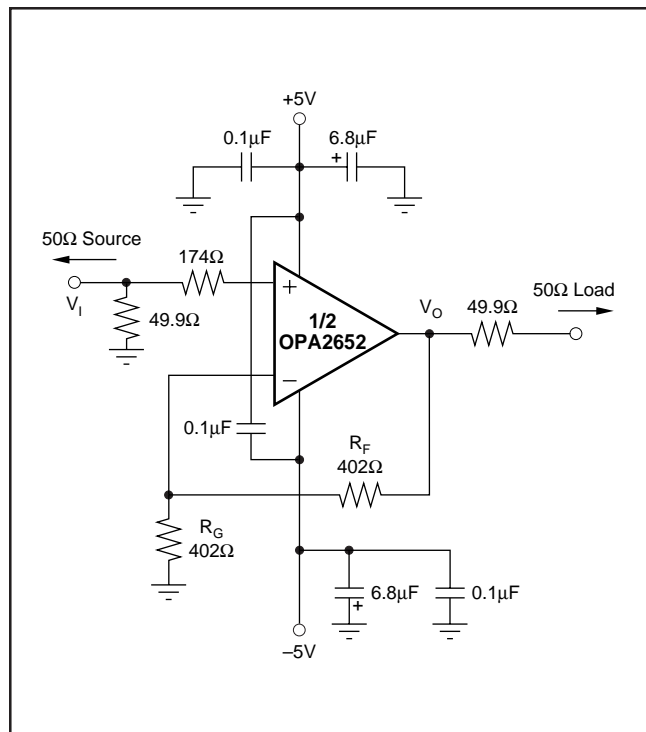
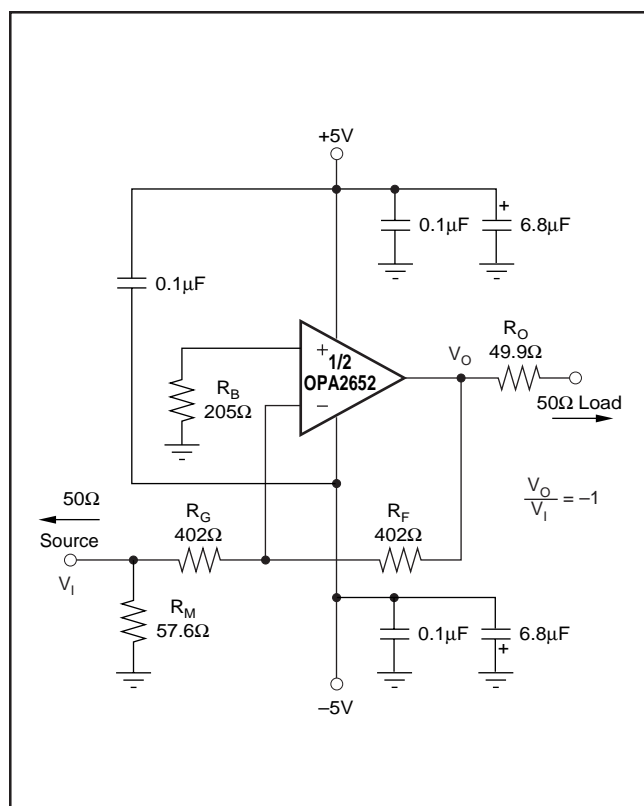

FIGURE 1. DC-Coupled,  $G = +2$ , Bipolar Supply, Specification and Test Circuit.
FIGURE 2. DC-Coupled,  $G = -1$ , Bipolar Supply, Specification and Test Circuit.
At  $T_A = +25^\circ C$ ,  $G = +2$ ,  $R_F = 402\Omega$ , and  $R_L = 100\Omega$ , unless otherwise noted. See Figures 1 and 2.
Figure 1 shows the DC-coupled, gain of +2, dual power supply circuit configuration used as the basis of the  $\pm 5\text{V}$  Specifications and Typical Performance Curves. This is for one channel. The other channel is connected similarly. For test purposes, the input impedance is set to  $50\Omega$  with a resistor to ground and the output impedance is set to  $50\Omega$  with a series output resistor. Voltage swings reported in the specifications are taken directly at the input and output pins, while output powers (dBm) are at the matched  $50\Omega$  load. For the circuit of Figure 1, the total effective load will be  $100\Omega \parallel 804\Omega$ . Two optional components are included in Figure 1.
Figure 2 shows the DC-coupled, gain of  $-1$ , bipolar supply circuit configuration which is the basis of the Specifications and Typical Performance Curves at  $G = -1$ . The input impedance matching resistor ( $57.6\Omega$ ) used for testing gives a  $50\Omega$  input load. A resistor ( $205\Omega$  in this case) connects the non-inverting input to ground. This provides the DC source resistance matching to cancel outputs errors due to input bias current.
A good rule of thumb is to target the parallel combination of  $R_F$  and  $R_G$  (Figure 1) to be less than approximately 300Ω. The combined impedance  $R_F \parallel R_G$  interacts with the inverting input capacitance, placing an additional pole in the feedback network, and thus a zero in the forward response. Assuming a 2pF total parasitic on the inverting node, holding  $R_F \parallel R_G < 300\Omega$  will keep this pole above 250MHz. By itself, this constraint implies that the feedback resistor  $R_F$  can increase to several kΩ at high gains. This is acceptable as long as the pole formed by  $R_F$  and any parasitic capacitance appearing in parallel is kept out of the frequency range of interest.
Voltage feedback op amps exhibit decreasing closed-loop bandwidth as the signal gain is increased. In theory, this relationship is described by the Gain Bandwidth Product (GBP) shown in the specifications. Ideally, dividing GBP by the non-inverting signal gain (also called the Noise Gain, or NG) will predict the closed-loop bandwidth. In practice, this only holds true when the phase margin approaches  $90^\circ$ , as it does in high gain configurations. At low gains (increased feedback factor), most amplifiers will exhibit a wider bandwidth and lower phase margin. The OPA2652 is compensated to give a flat response in a non-inverting gain of 1 (Figure 1). This results in a typical gain of +1 bandwidth of 700MHz, far exceeding that predicted by dividing the 200MHz GBP by  $NG = 1$ . Increasing the gain will cause the phase margin to approach  $90^\circ$  and the bandwidth to more closely approach the predicted value of  $(GBP/NG)$ . At a gain of +5, the 45MHz bandwidth shown in the Typical Specifications is close to that predicted using this simple formula.
Since the OPA2652 is a general purpose, wideband voltage feedback op amp, all of the familiar op amp application circuits are available to the designer. Inverting operation is one of the more common requirements and offers several performance benefits. Figure 2 shows a typical inverting configuration.
In the inverting configuration, three key design considerations must be noted. The first is that the gain resistor ( $R_G$ ) becomes part of the signal channel input impedance. If input impedance matching is desired (which is beneficial whenever the signal is coupled through a cable, twisted pair, long PC board trace or other transmission line conductor),  $R_G$  may be set equal to the required termination value and  $R_F$  adjusted to give the desired gain. This is the simplest approach and results in optimum bandwidth and noise performance. However, at low inverting gains, the resultant feedback resistor value can present a significant load to the amplifier output. For an inverting gain of  $-1$ , setting  $R_G$  to  $50\Omega$  for input matching eliminates the need for  $R_M$  but requires a  $50\Omega$  feedback resistor. This has the interesting advantage that the noise gain becomes equal to 2 for a  $50\Omega$  source impedance—the same as the non-inverting circuits considered above. However, the amplifier output will now see the  $50\Omega$  feedback resistor in parallel with the external load. In general, the feedback resistor should be limited to the  $200\Omega$  to  $1.5k\Omega$  range. In this case, it is preferable to increase both the  $R_F$  and  $R_G$  values as shown in Figure 2, and then achieve the input matching impedance with a third resistor ( $R_M$ ) to ground. The total input impedance becomes the parallel combination of  $R_G$  and  $R_M$ .
The second major consideration, touched on in the previous paragraph, is that the signal source impedance becomes part of the noise gain equation and influences the bandwidth. For the example in Figure 2, the  $R_M$  value combines in parallel with the external  $50\Omega$  source impedance, yielding an effective
driving impedance of  $50\Omega \parallel 57.6\Omega = 26.8\Omega$ . This impedance is added in series with  $R_G$  for calculating the noise gain (NG). The resultant NG is 1.94 for Figure 2, (an ideal  $0\Omega$  source would cause  $NG = 2.00$ ).
The third important consideration in inverting amplifier design is setting the bias current cancellation resistor on the non-inverting input ( $R_B$ ). If this resistor is set equal to the total DC resistance looking out of the inverting node, the output DC error, due to the input bias currents, will be reduced to  $(\text{Input Offset Current}) \cdot R_F$ . If the  $50\Omega$  source impedance is DC-coupled in Figure 2, the total resistance to ground on the inverting input will be  $429\Omega$ . Combining this in parallel with the feedback resistor gives  $208\Omega$ , which is close to the  $R_B = 205\Omega$  used in Figure 2. To reduce the additional high frequency noise introduced by this resistor, it is sometimes bypassed with a capacitor. As long as  $R_B < 300\Omega$ , the capacitor is not required since its total noise contribution will be much less than that of the op amp's input noise voltage.
The OPA2652 provides good distortion performance into a 100Ω load on ±5V supplies. Increasing the load impedance improves distortion directly. Remember that the total load includes the feedback network; in the non-inverting configuration (Figure 1) this is sum of  $R_F + R_G$ , while in the inverting configuration, it is just  $R_F$ . Also, providing an additional supply decoupling capacitor (0.1μF) between the supply pins (for bipolar operation) improves the 2nd-order distortion slightly (3dB to 6dB).
Evaluating these two equations for the OPA2652 circuit and component values shown in Figure 1 will give a total output spot noise voltage of  $17\text{nV}/\sqrt{\text{Hz}}$  and a total equivalent input spot noise voltage of  $8.4\text{nV}/\sqrt{\text{Hz}}$ . This is including the noise added by the bias current cancellation resistor (205Ω) on the non-inverting input. This total input-referred spot noise voltage is only slightly higher than the  $8\text{nV}/\sqrt{\text{Hz}}$  specification for the op amp voltage noise alone. This will be the case as long as the impedances appearing at each op amp input are limited to the previously recommend maximum value of 300Ω. Keeping both ( $R_F \parallel R_G$ ) and the non-inverting input source impedance less than 300Ω will satisfy both noise and frequency response flatness considerations. Since the resistor-induced noise is relatively negligible, additional capacitive decoupling across the bias current cancellation resistor ( $R_B$ ) for the inverting op amp configuration of Figure 2 is not required.
The balanced input stage of a wideband voltage feedback op amp allows good output DC accuracy in a wide variety of applications. Although the high speed input stage does require relatively high input bias current (typically 4μA out of each input terminal), the close matching between them may be used to significantly reduce the output DC error caused by this current. This is done by matching the DC source resistances appearing at the two inputs. This reduces the output DC error due to the input bias currents to the offset current times the feedback resistor. Evaluating the configuration of Figure 1, using worst-case +25°C input offset voltage and current specifications, gives a worst-case output offset voltage equal to:
As an example, compute the maximum  $T_J$  using an OPA2652E (SOT23-8 package) in the circuit of Figure 1 operating at the maximum specified ambient temperature of  $+85^{\circ}\text{C}$  and with both outputs driving  $2.5\text{V}_{\text{DC}}$  into a grounded  $100\Omega$  load.